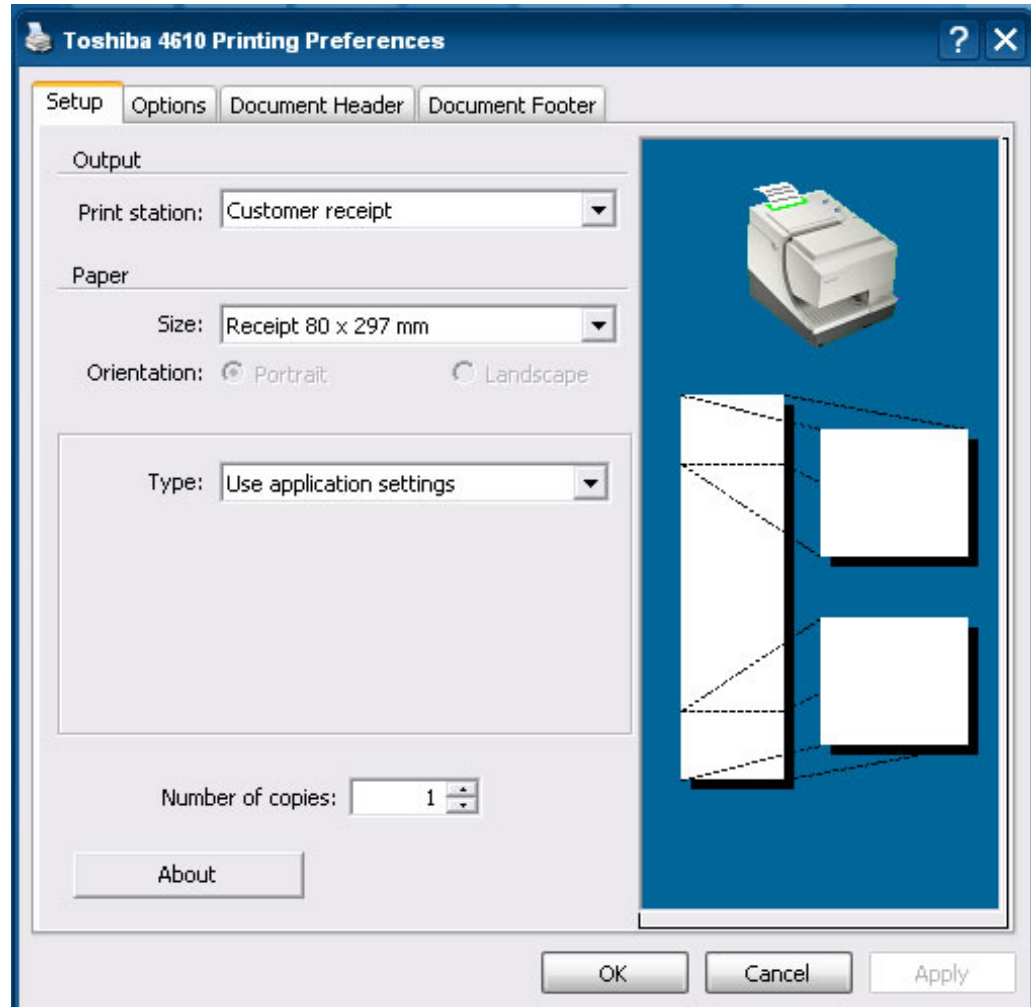

Figure 39. Toshiba 4610 Printing Preferences
3. Click **Printing Preferences**. The Toshiba 4610 Printing Preferences window opens with the **Setup** page selected (see Figure 39).